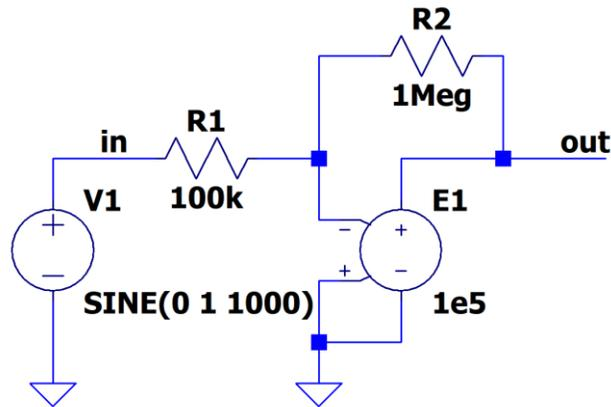

Fig. 7. Schematic with sine wave source.
- Left click OK. The schematic should now appear as in Fig. 7.